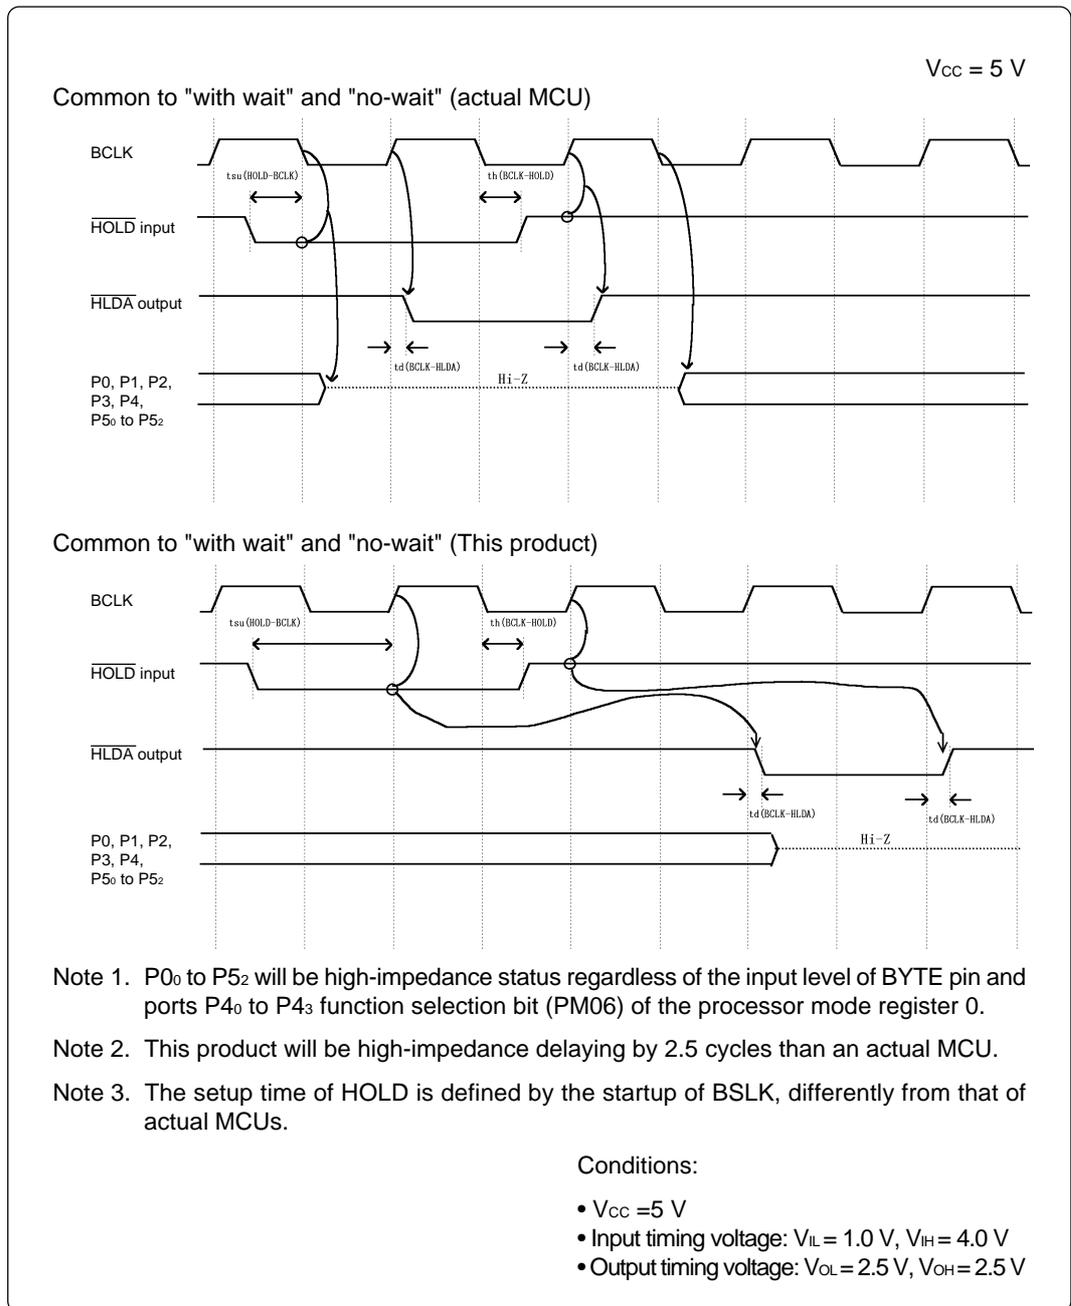

Figure 5.5 Timing requirements
*1 Minimum 7 ns (The definition is different from that of actual MCUs. For details, see Figure 5.5.)